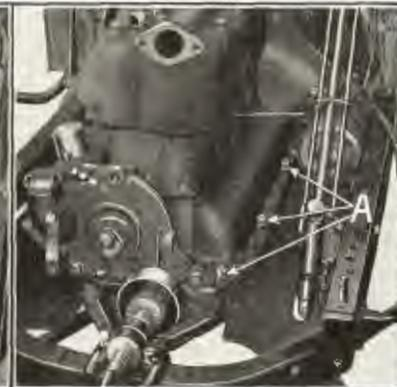

Fig. 26
- 23 **Remove engine pan-left** by loosening the three crankcase bolts which hold pan to crankcase (See "A" Fig. 26) and withdrawing pan.